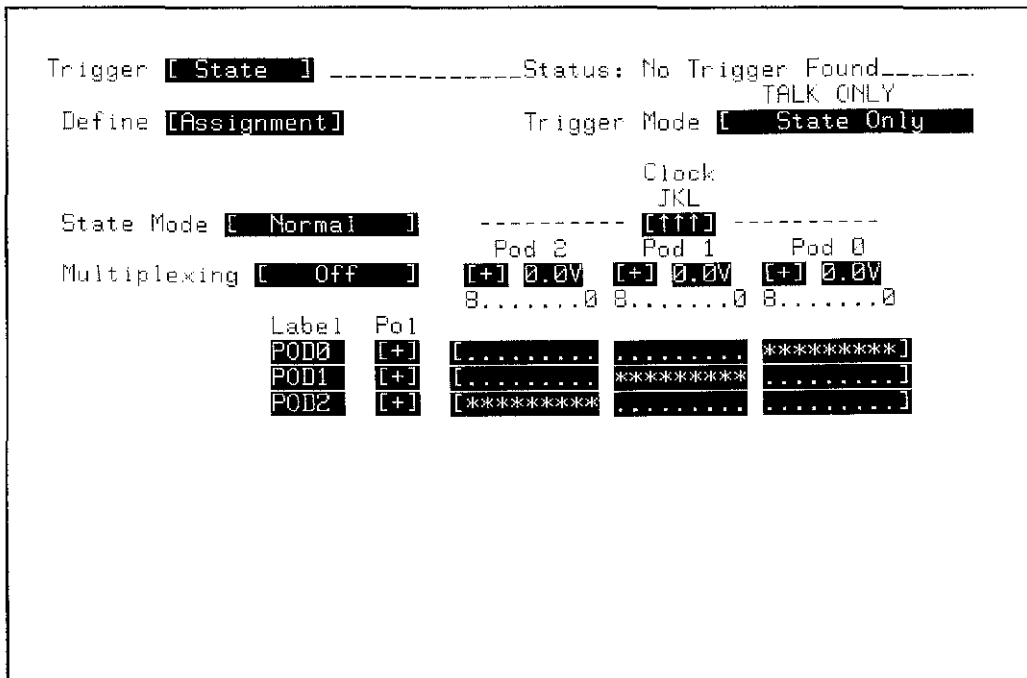

Figure 3-40. TRIGGER State / Define [Assignment] Menu
3. Configure the TRIGGER State / Define [Assignment] menu as shown in figure 3-40.